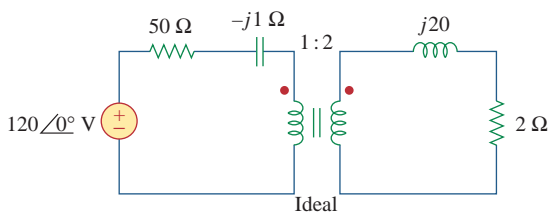

Figure 13.107
13.42 For the circuit in Fig. 13.107, determine the power absorbed by the $2\text{-}\Omega$ resistor. Assume the 80 V is an rms value.